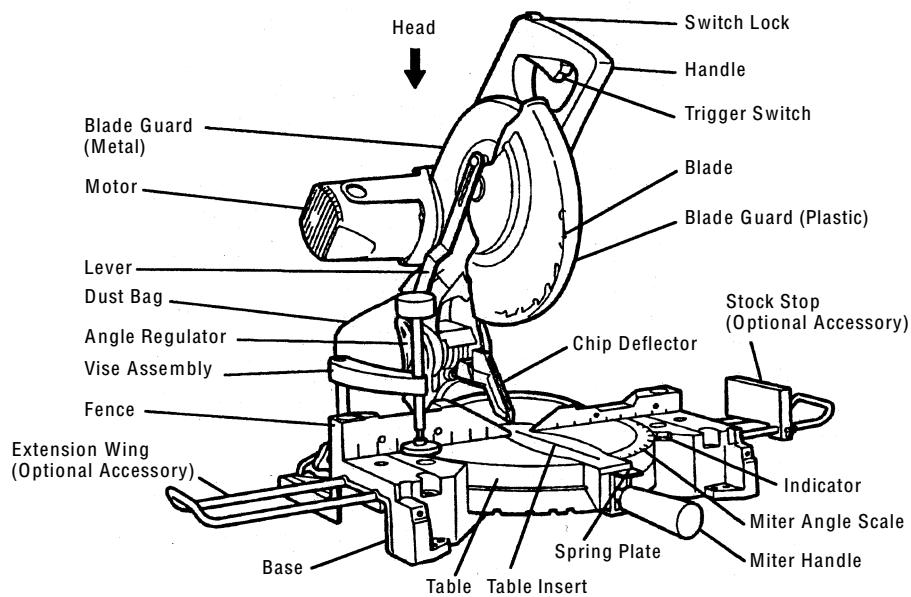
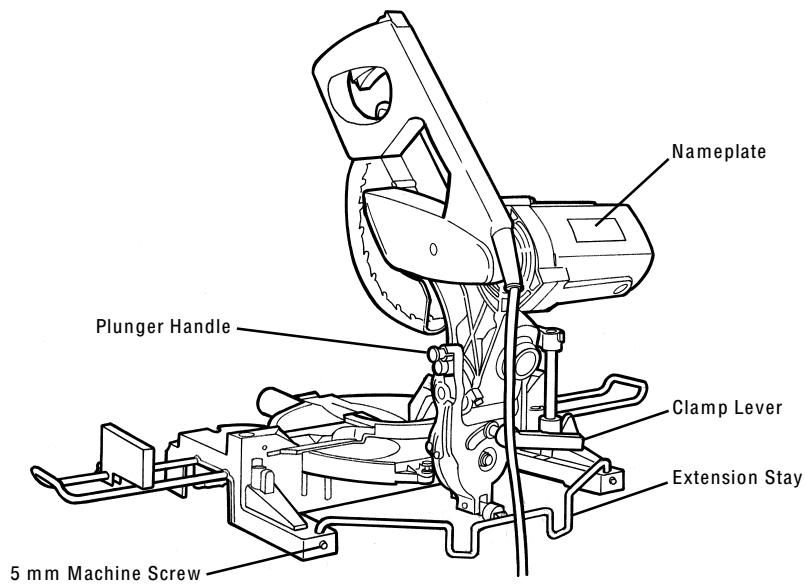

Fig. 1
Fig. 2
- ① Holder Assembly (Fig. 1) (Code No. 317542)
- ② Vise Assembly (Code No. 317541)
- ③ Saw blade 10" (255 mm) TCT Saw blade for fine surface cut (Total teeth: 60) (Code No. 976472)
- ④ Saw blade 10" (255 mm) TCT Saw blade for normal cut (Total teeth: 70) (Code No. 976473)
The extension stay attached to the rear of the base (see Fig. 2) helps stabilize the power tool.
For transportation purpose, grasp the handle (see Fig. 1) with one hand and hold the base at the left end grip section with the other hand to carry.
Attach the dust bag, miter handle, extension wing, stock stop and vise assembly as indicated in Fig. 1 and Fig. 2.
(1) Insert the extension stay into the hole of the base.
(2) Fasten the two 5 mm machine screws and fix an extension stay as indicated in Fig. 2.